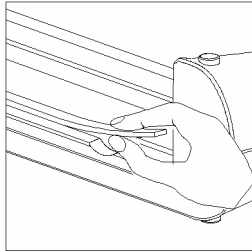

Fig. 6
- 2 Remove the blade out of the slot from the other side of the guide rail. Recesses are provided for this at both sides of the guide rail (Fig. 6).